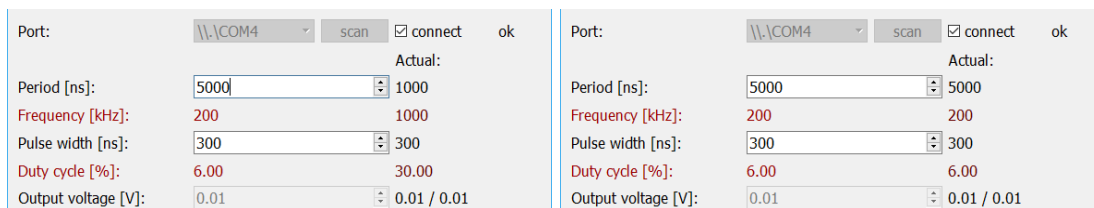

Figure 5.2: The set value appears under **Actual**, which changes upon clicking **apply**, as shown here for changing the pulse repetition period.
- Click **apply** to set the values. The values displayed on the right will update accordingly under **Actual:** to the right of the input box, as shown in Fig. 5.2.